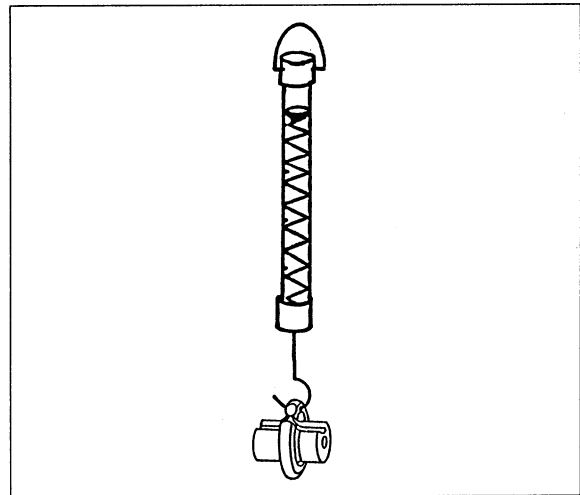

Fig. 2 Weight attached to dynamometer
5. Determine the force due to weight exerted by the weight. ► Fig. 2 $F_1 \approx$ ____